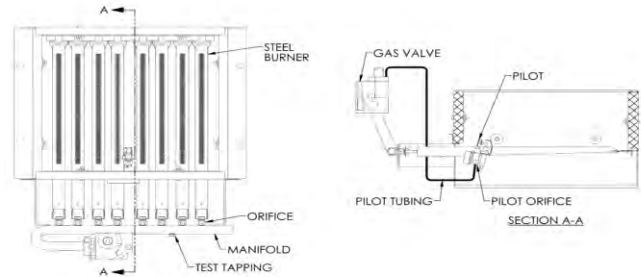

Figure 7.1: Gas Valve, Manifold and Burner Assembly – Intermittent Ignition
13. The gas manifold and control assembly are made of gas-tight, completely factory assembled and installed components of the base assembly. See Figure 7.1.